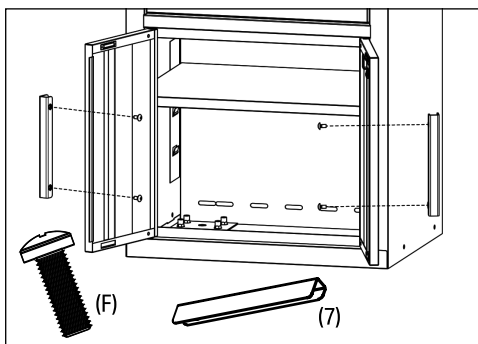

Fig. 2
7.2 Fitting the Cabinet (1), (4), (5) Door Handles (Fig.2)
- Attach the door handles (7) to the front of the drawers or doors using M5 flat head bolts (F) $\times$ 2 per handle.